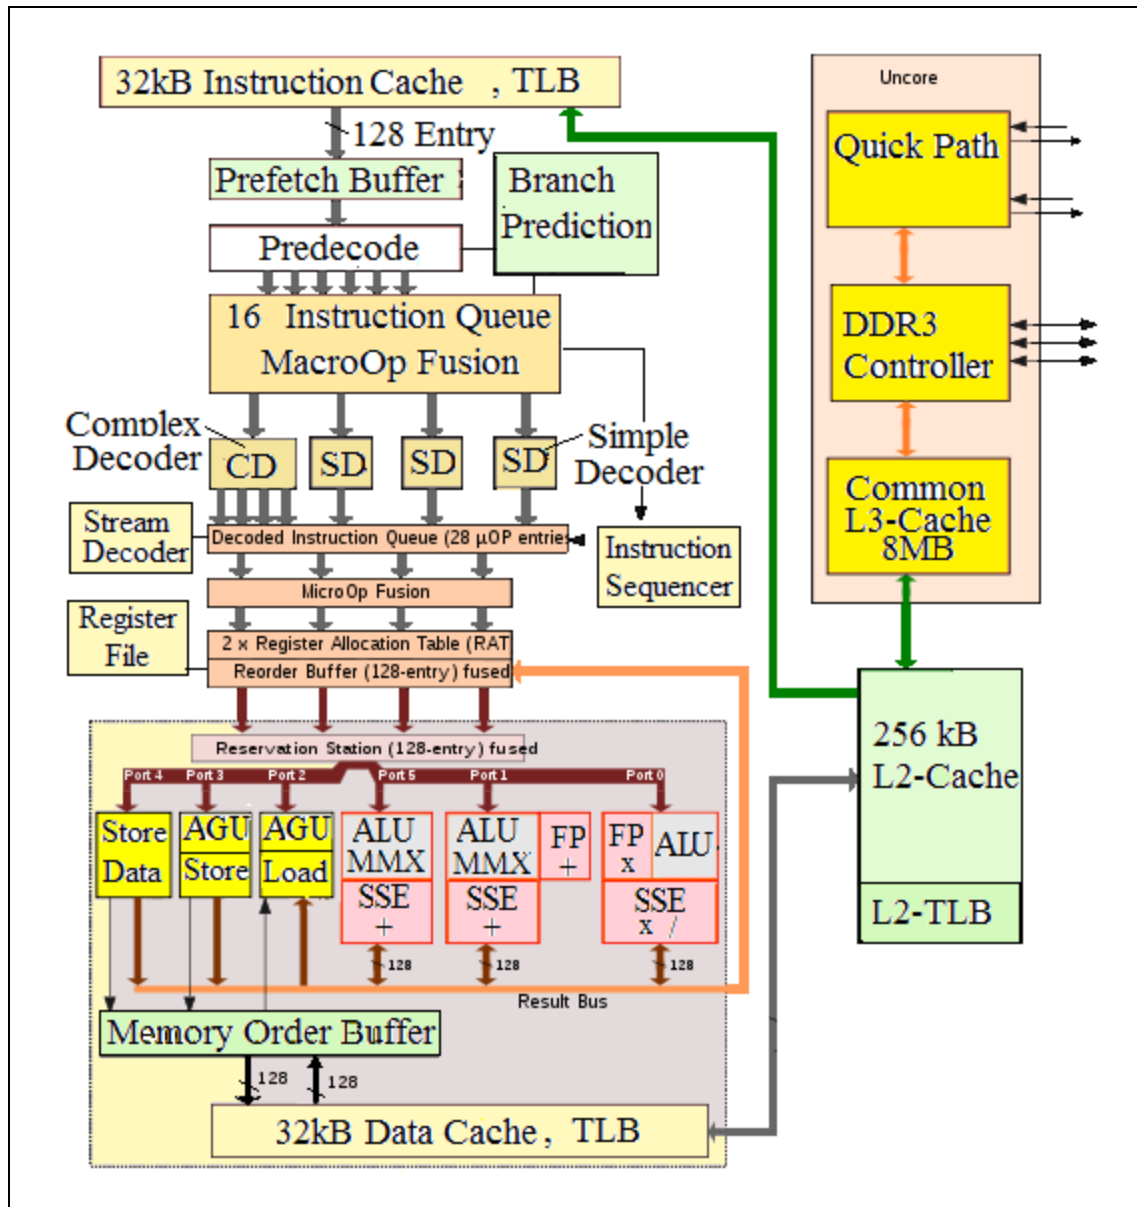

Fig. 2-22. Nehalem microarchitecture (Core i7)
The Core i7 processors are based on the Nehalem microarchitecture, which is successor to the Core microarchitecture. As shown in figure 2-22, this architecture offers 6 dispatch ports: one Load, two Store and three universal ports for 4 decoders, one for complex instructions (CD) and three for simple instructions (SC). The desktop Core i7 was released on 2009. Server and mobile Core i7 processors followed in 2010 and 2011. The initial Core i7 processors used the 45 nm technology and had 731 million transistors. The processor has 64 kB L1-Cache (32kB code, 32kB data), 256 kB L2-Cache per core and 2-3 MB L3-Cache per core, shared by all cores.